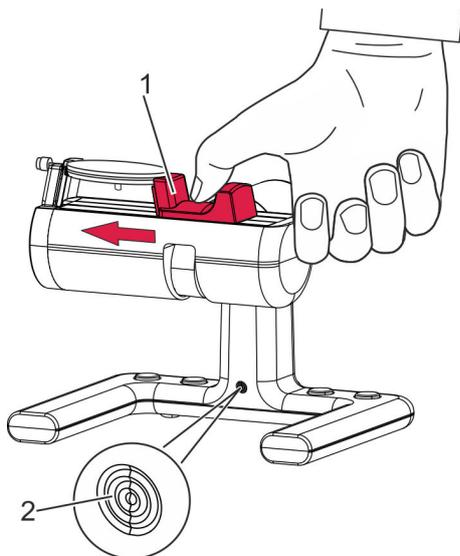

Fig. 15: Releasing the clamping jaw
3. ➔ Carefully guide the clamping jaw (Fig. 15/1) to the clockwork.
- The LED on the ChronoMaster (Fig. 15/2) flashes at the same frequency as the watch beats.